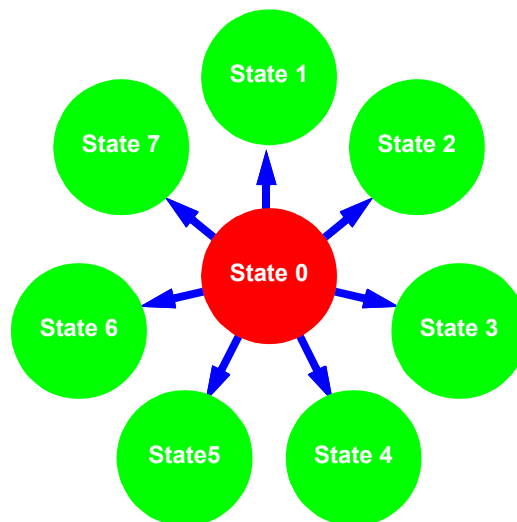
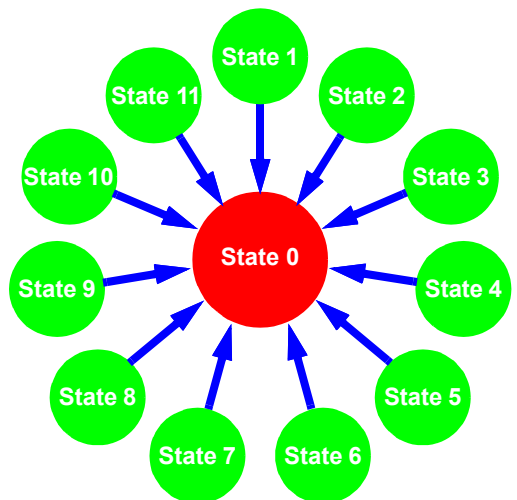

Figure 91: Maximum 7 State Transitions out of a Given State
Figure 92: Maximum 11 State Transitions into Given State
There are a total of 16 digital input signals to the ASM Subsystem which are inputs directly to the DM macrocells. These 16 signals are shown in Figure 90, highlighted in blue. While there are 4 input signals coming from the Connection Matrix and going to each DMx_x macrocell, there is only 1 output signal from each of these macrocells, which goes directly to the ASM macrocell. There are also 3 signal lines that come directly from the Connection Matrix and go to the three Matrix Interface (MI) macrocells which can drive state transitions. These signals are shown in Figure 90, highlighted in green. This sets an upper bound on the number of transitions that the user can select going **out of** a particular state to be 7, shown in Figure 91. There is no limitation on the number of unique transitions that can be supported going into a particular state, the user can select to have transitions going from a state to all other states, shown in Figure 92. Each of these input signals to the ASM macrocell is level sensitive, and active high. A high level input will trigger a state transition.